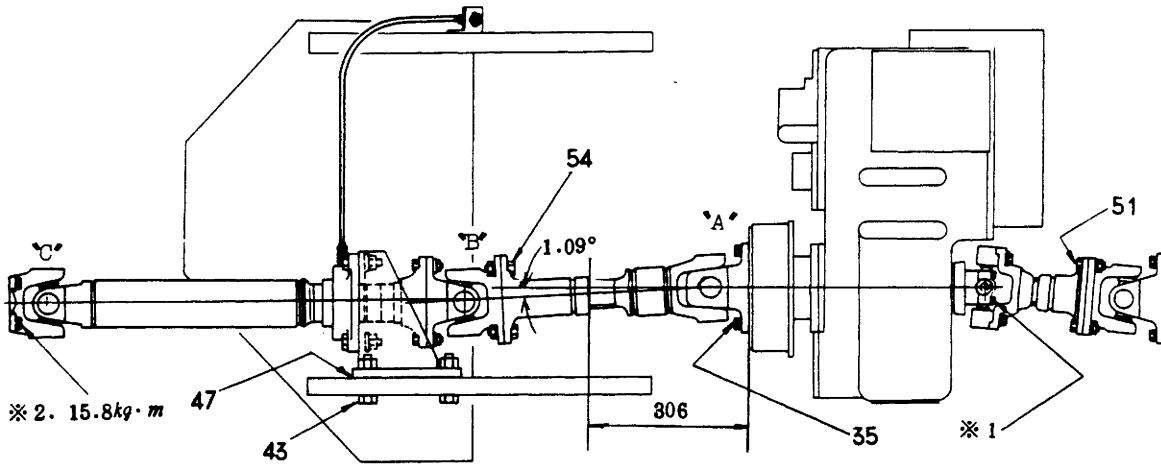

Fig. 3-25 Capscrew Tightening Torque
Reassemble by reversing the order of disassembly, paying attention to those items shown in Fig. 3-25. Adjust the shims (47) of cartridge (39) so that points "A", "B" and "C" are inclined 1.09° when the machine is horizontal.